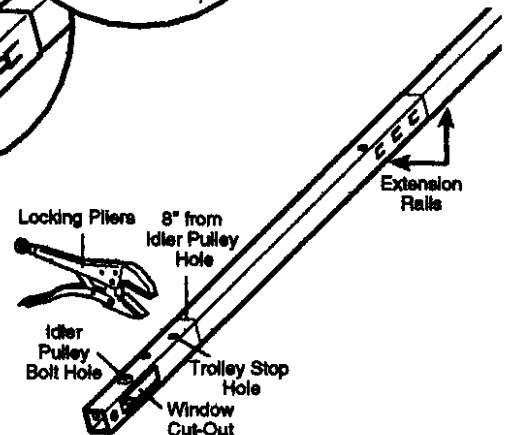

Figure 4
11. As a temporary trolley stop, clamp a locking pliers onto the rail, 8" from the center of the idler pulley hole, as shown in Figure 4. Slide the trolley assembly to this point.